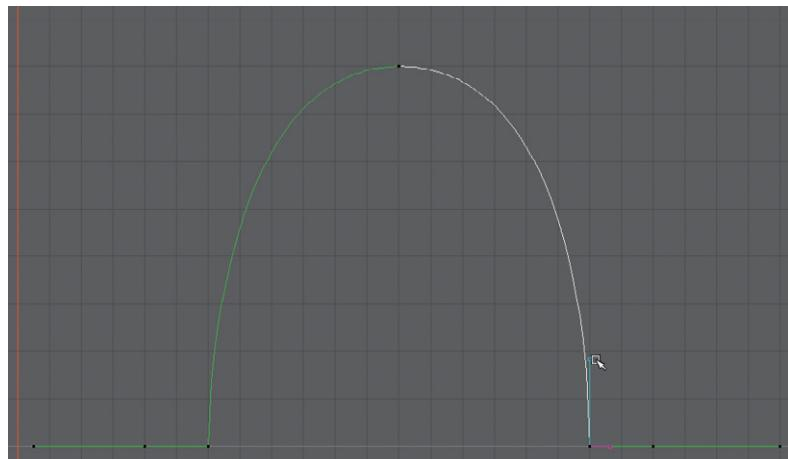

FIG. 9.16 Broken tangent with sharp tangent at landing key.
Step 21: Repeat for the key at frame 36 (Fig. 9.16).